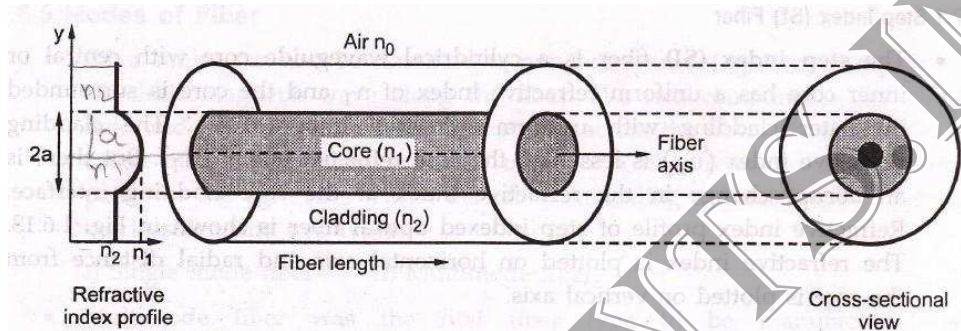

Fig. 1.6.14 Graded index fiber
- x In the **graded index (GRIN)** fiber the refractive index is not uniform within the core, it is highest at the center and decreases smoothly and continuously with distance towards the cladding. The refractive index profile across the core takes the parabolic nature. Fig. 1.6.14 shows refractive index profile of graded index fiber.